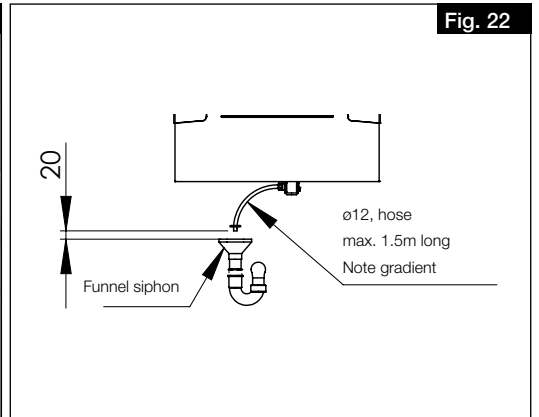

Fig. 22
> The condensate hose must end 20 mm above the open drain or possible water level (see Fig. 22).
> The condensate hose from the ball siphon must have a downward gradient, openly dripping into a funnel siphon and must not be discharged into a closed system (see Fig. 22).
- > The condensate hose must end 20 mm above the open drain or possible water level (see Fig. 22).